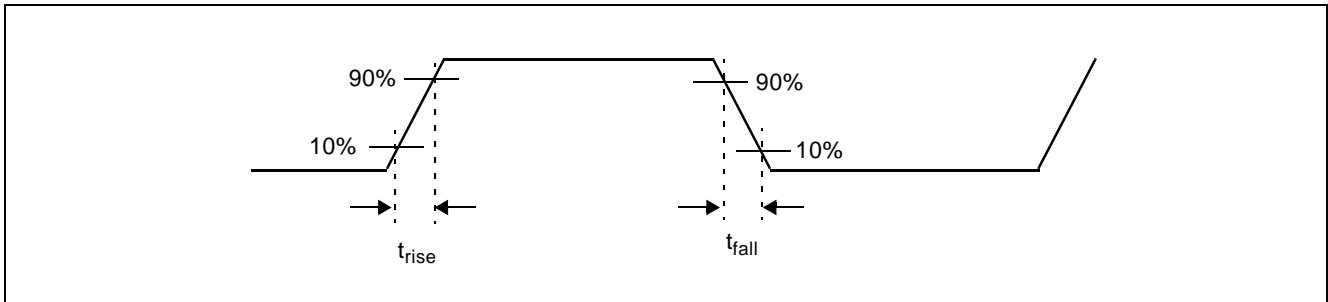

**Figure 29 - Output Duty Cycle**
**AC Electrical Characteristics - Output Clock Duty Cycle1 (See Figure 29).**